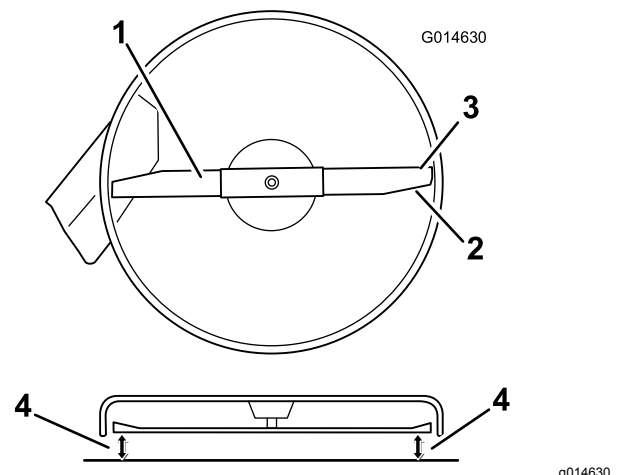
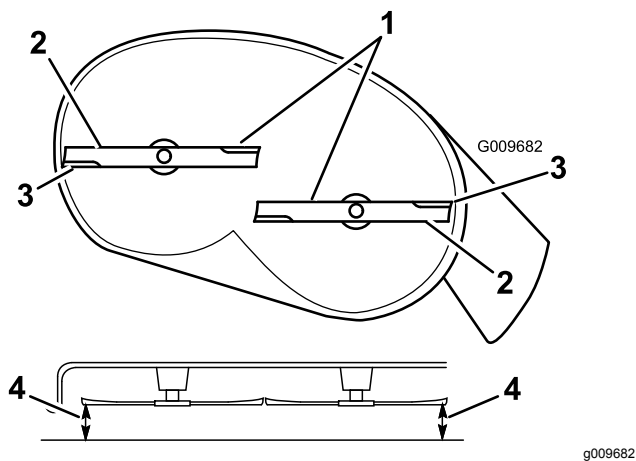

Figure 65
Figure 66
- Carefully rotate the blade(s) so that they are all side to side (Figure 65 and Figure 66).
5. Measure between the outside cutting edges and the flat surface (Figure 65 and Figure 66).